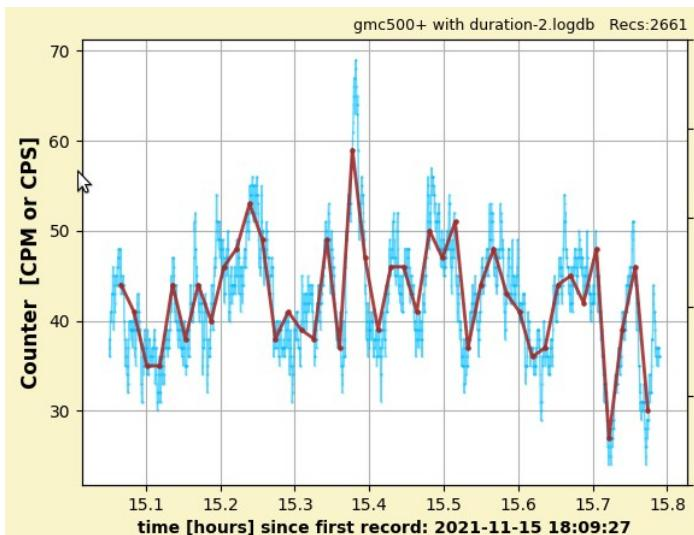

Figure 48: Running a GMC-500+ counter both via USB-Serial (blue) and WiFi (brown)
Figure 48 shows a comparison of data collected from a GMC-500+ by either a regular USB connection, or from the counter running as WiFiClient. The traces fully agree; except that the USB connection allows updates every second, while the WiFi connection only every minute.
- Step 4: Run GeigerLog with config setting WiFiClientType=GMC. Figure 48 shows a recent result running a GMC-500+ with both redirection and USB connection.